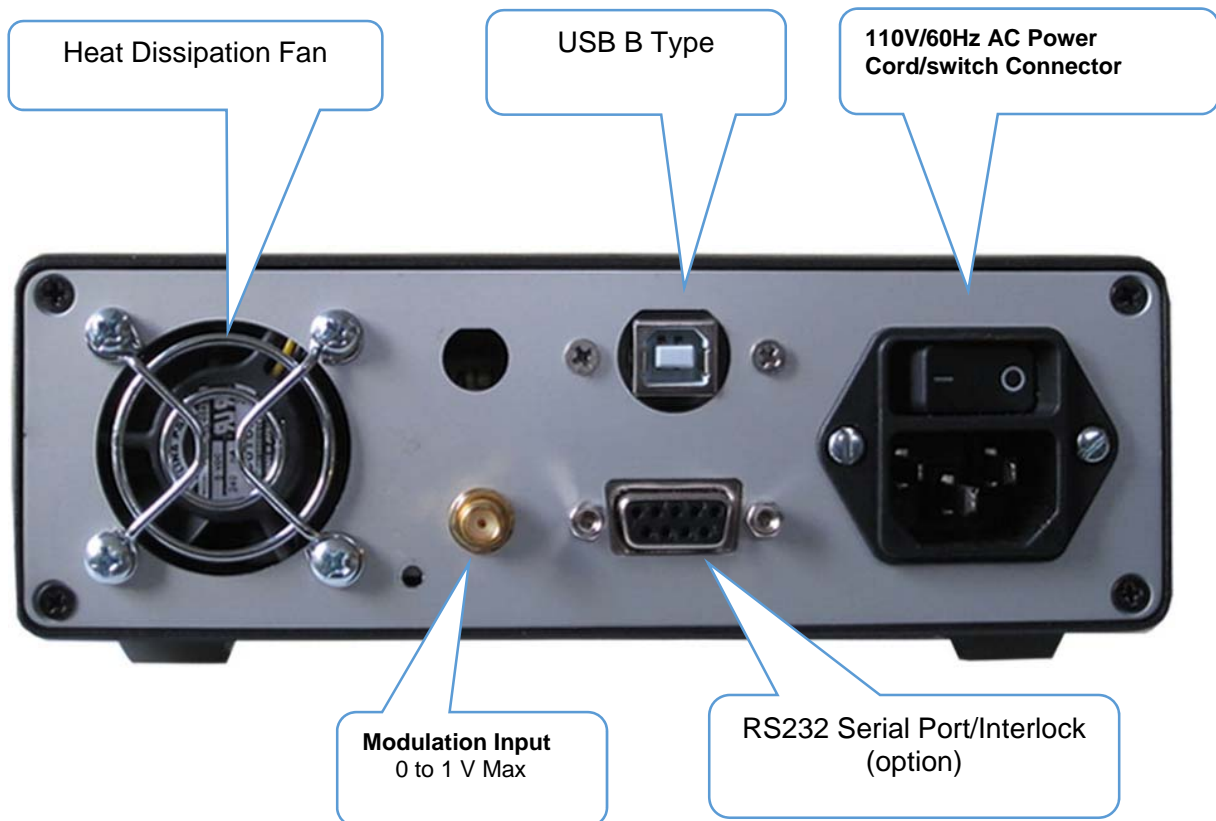

Figure 3 Laser Source Rear Panel View
- 2) Connect a signal generator or 0 to 1 V signal source to the device (see figure 3 rear panel view).